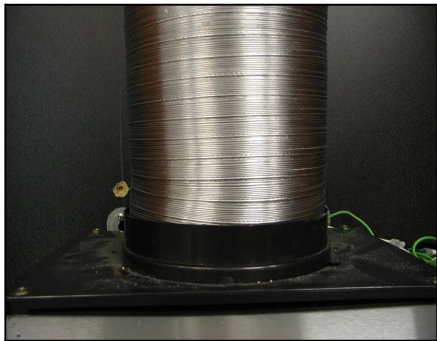

Figure 6
5. Use 6" round aluminum or steel pipe to connect the plastic exhaust on the hood to the ductwork above. Use duct tape to make all joints secure and air tight. Refer to Figure 6.